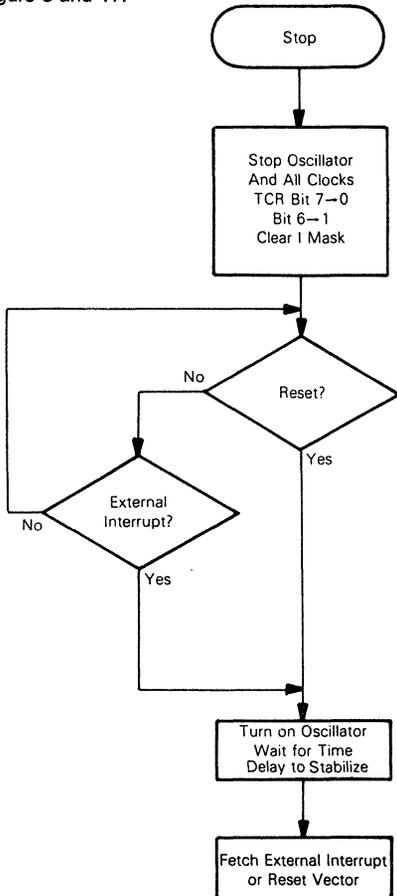

Fig. 17 - Stop function flowchart
**STOP** - The STOP instruction places the CDP6805E2 in a low power consumption mode. In the STOP function the internal oscillator is turned off, causing all internal processing and the timer to be halted; refer to Figure 17. The DS and AS lines go to a low state and the R/W line goes to a high state. The multiplexed address/data bus goes to the data input state. The high order address lines remain at the address of the next instruction. The MPU remains in the STOP mode until an external interrupt or reset occurs; refer to Figure 8 and 17.